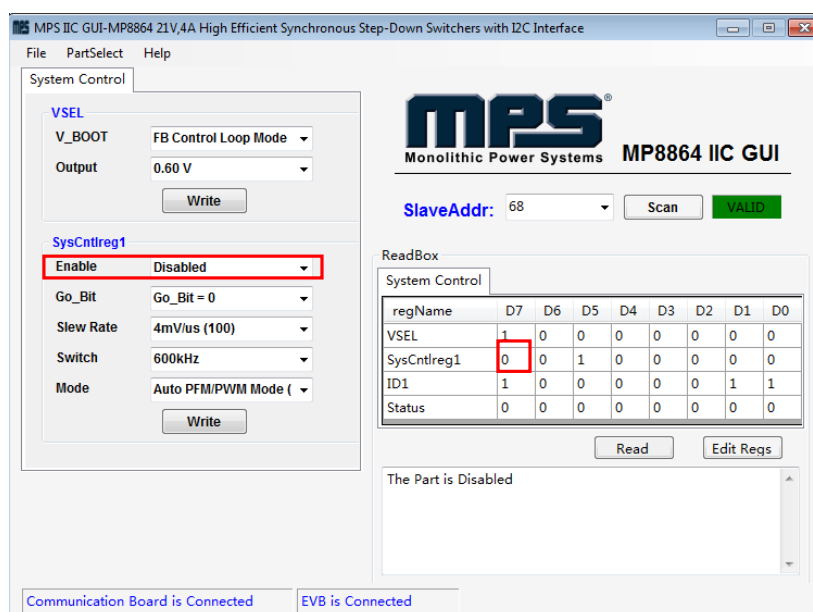

Figure 10: Refer to Datasheet to Translate 0's and 1's
- Click the **Read** button to update values. The changed information of the item will appear on the right side (see Figure 10).